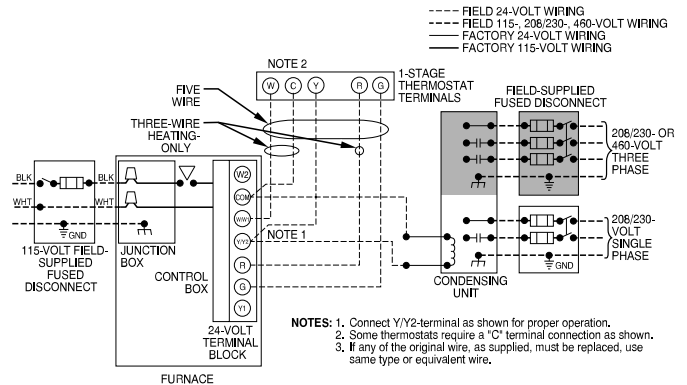

Fig. 24 – Typical Field Wiring Diagram
See Fig. 24 for field wiring diagram showing typical field 115-V wiring. Check all factory and field electrical connections for tightness.
5. Connect line voltage leads. (See Fig. 24).
Make field 24-V connections at the 24-V terminal strip. (See Fig. 24 - Fig. 29). Connect terminal Y/Y2 as shown in Fig. 30 for proper cooling operation. Use only AWG No. 18, color-coded, copper thermostat wire.